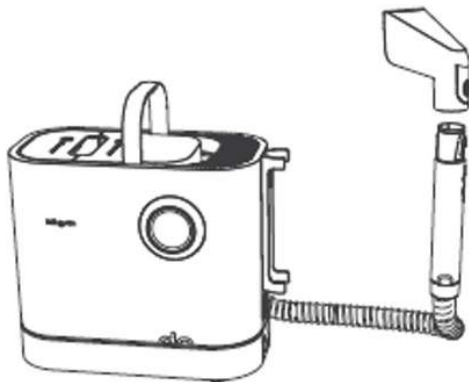

Fig. 24
1. When the appliance provides descaling prompt, please remove the handle of the brush and then detach the brush head (see Fig.24).